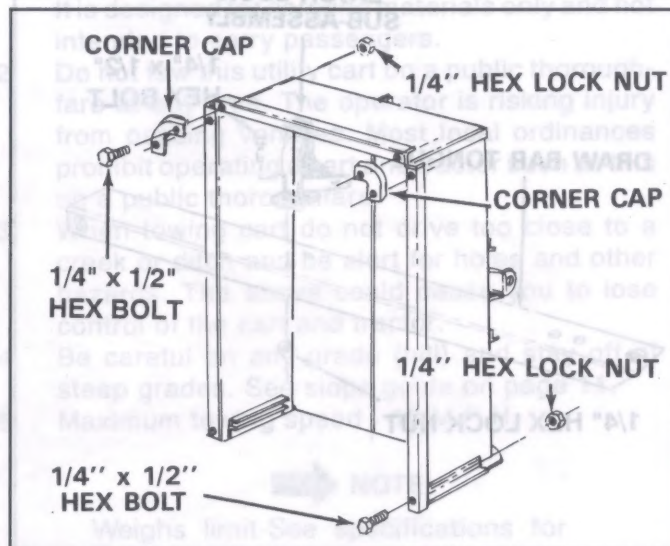

FIGURE 8
13. Assemble two front top corner caps and two bolts in top flanges through tailgate reinforcement bracket using 1/4" x 1/2" hex bolts and 1/4" hex lock nuts. See figure 8: Tighten all bolts.